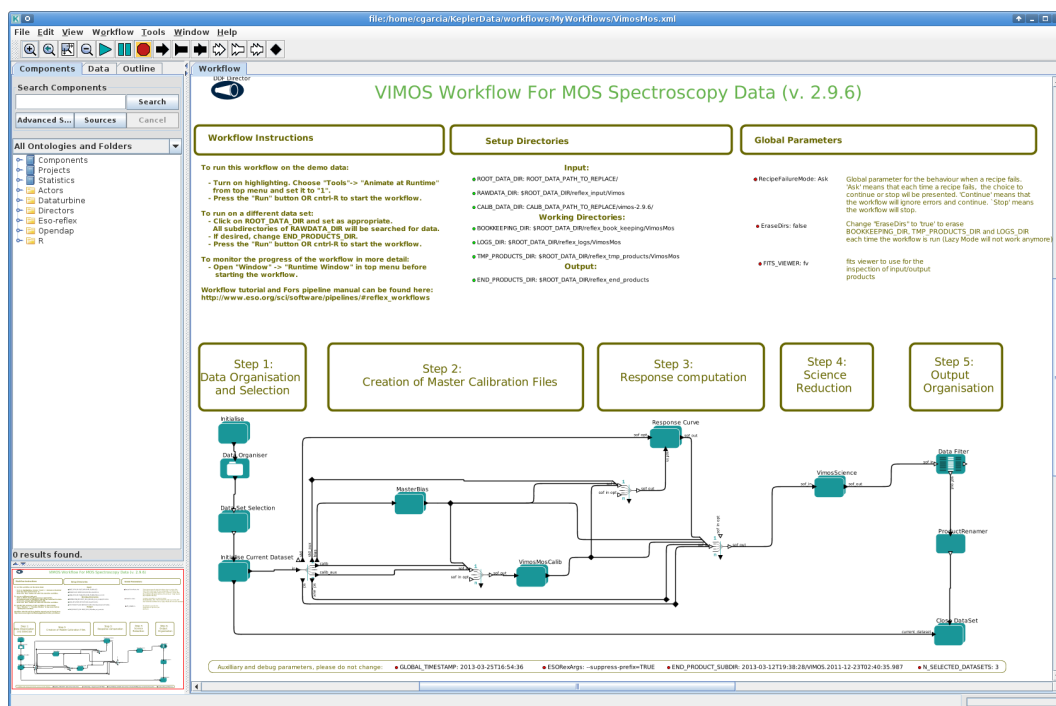

Figure 4.2: *VIMOS/MOS workflow general layout.*
2. Now open the VIMOS workflow by clicking on File -> Open File, selecting first vimos-2.9.11 and then the file VimosMos.xml in the file browser. You will be presented with the workflow canvas shown in Figure 4.2. Note that the workflow will appear as a canvas in a new window.